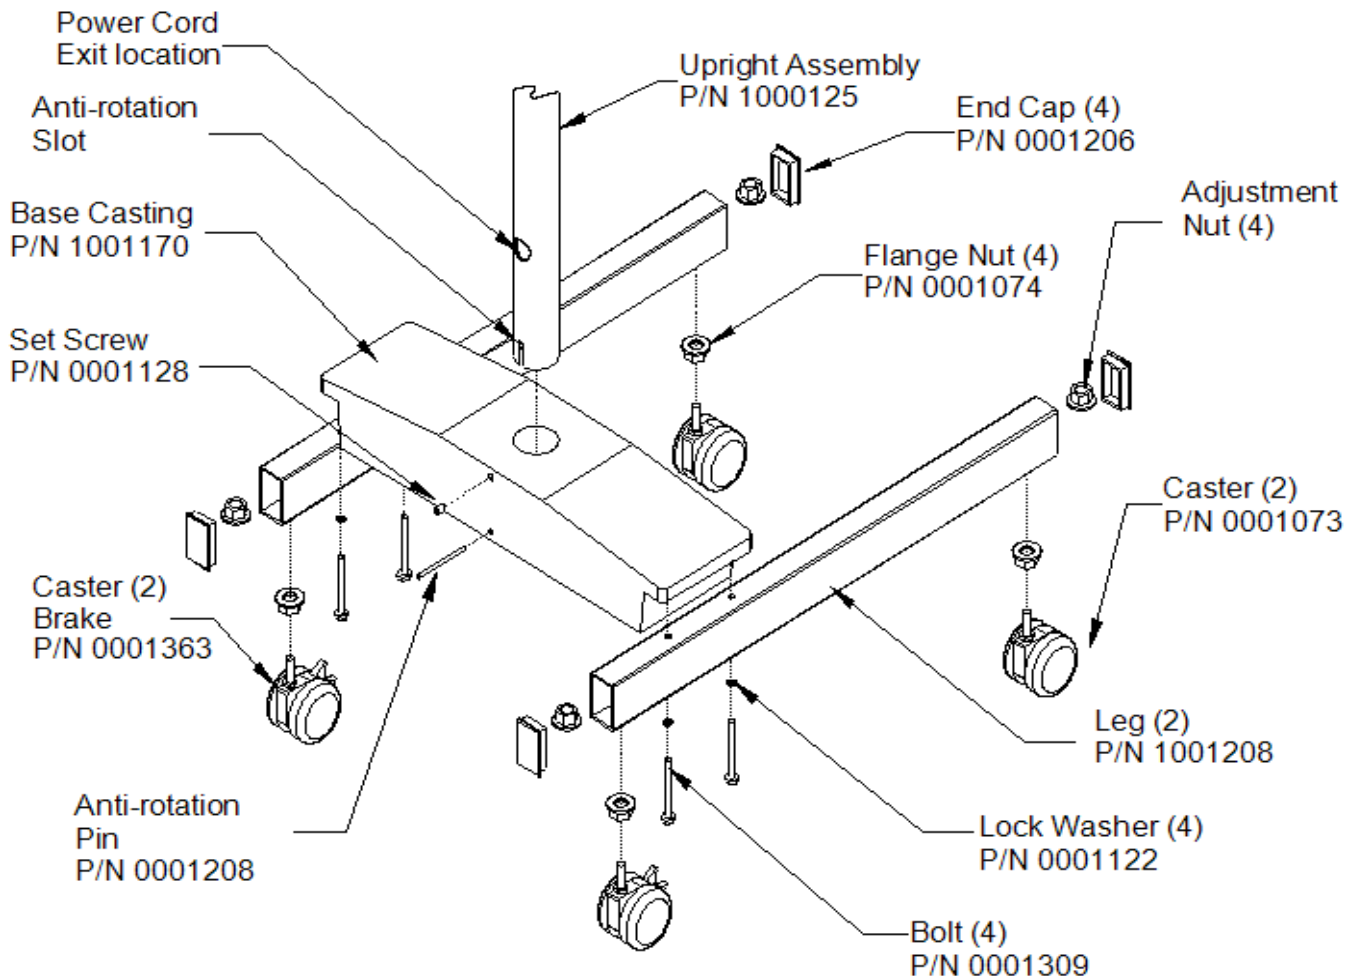

Figure 17: Floor Stand Base Assembly
- Bolt the assembled legs onto the cast iron base using four 1/4-20 x 1 3/4" bolts and 1/4 lock washers. Position the floor base casting so that the set-screw in the base is at the rear of the assembly. See **Figure 17: "Floor Stand Base Assembly"**.
To level the base, remove the end caps at the end of each leg and adjust the caster bolts and nuts. Once the base has been leveled, tighten the nuts securely and insert the leg cap in the end of each leg. See **Figure 17: “Floor Stand Base Installation”**.